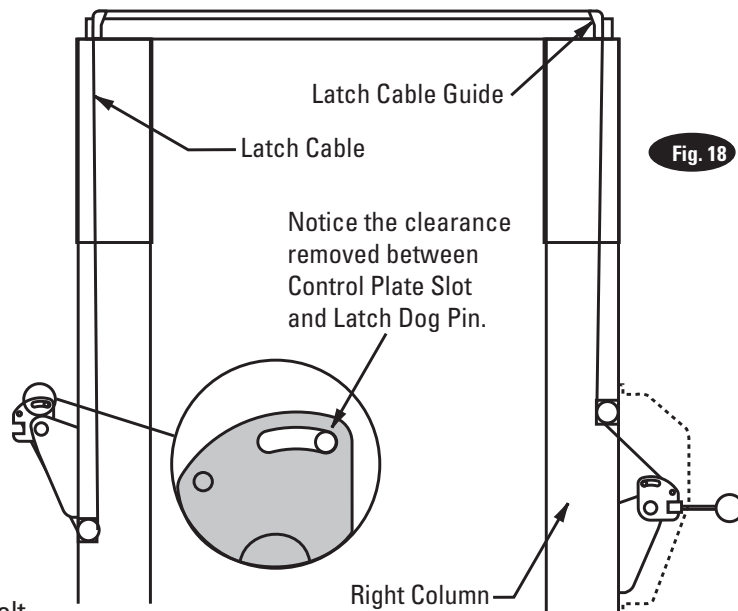
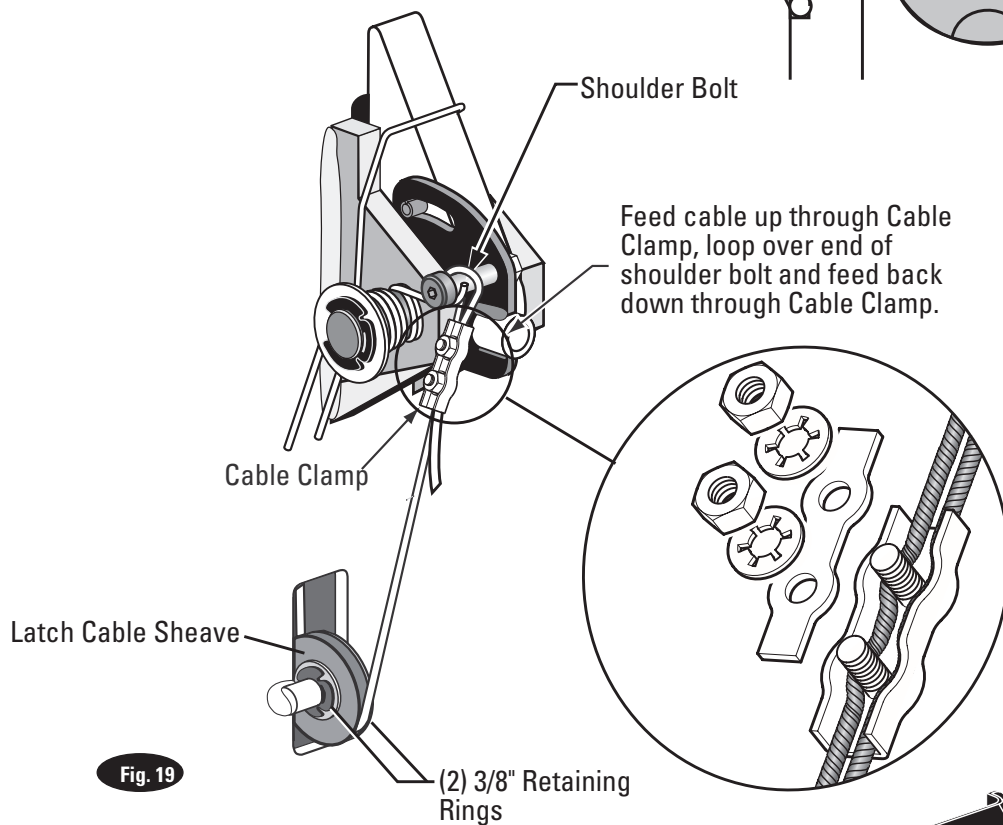

Fig. 18
Fig. 19
- Route cable up inside column and through the latch cable guide, Fig. 16a & Fig. 18.
- Continue routing cable to the left column latch cable guide, Fig. 16a & Fig. 18, routing the cable through the left column latch cable guide, Fig. 16a.
- Bring the cable down inside the left column and feed the end of the cable through the lower latch cable sheave slot so that the cable is now back outside the column, Fig. 19.
- Route cable under the bottom side of the latch cable sheave, Fig. 19.
- Insert cable in cable clamp along one side, loop around shoulder screw and back down, inserting cable along other side of cable clamp, Fig. 19. Place top back on clamp, barely tightening.
- Next, pull the control plate down, Fig. 18 & Fig. 19, to eliminate any clearance between the control plate slot and the latch dog pin, Fig. 18.